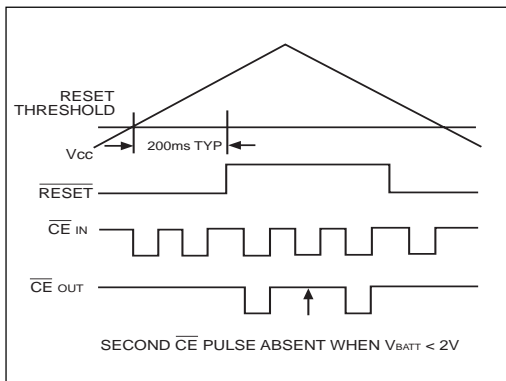

Figure 11. Backup-Battery Monitor Timing Diagram
The **SP791** low-battery voltage function monitors V_{BATT} . Low-battery detection of $2.0V \pm 0.15V$ is monitored only during the reset-timeout period (200ms) that occurs either after a normal power-up sequence or after the \overline{MR} reset input has been returned to its high state. If the battery voltage is below 2.0V, the second CE pulse is inhibited after reset timeout. If the battery voltage is above 2.0V, all CE pulses are allowed through the CE gate after the reset timeout period. To use this function, after the 200ms reset delay, write 00 (HEX) to a location using the first CE pulse, and write FF (HEX) to the same location using the second CE pulse following \overline{RESET} going inactive on power-up. The contents of the memory then indicates a good battery (FF) or a low battery (00), *Figure 11*.